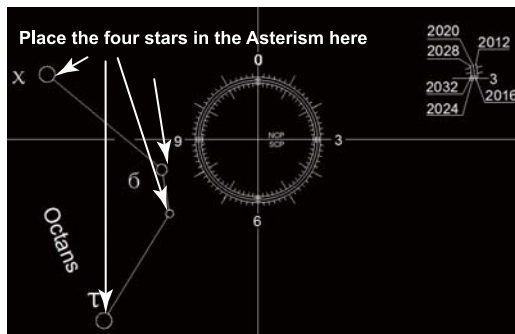

Fig 25
**For observing in the Southern Hemisphere:** locate in the polar scope the 4 dim stars (Around Magnitude 5 to 6) which form the pattern “Octans” (see drawing in the polar scope as Fig 25). Align the orientation of the “Octans” drawing to the 4 stars. Then move the 4 stars to the 4 small circles of the “Octans” drawing by using the horizontal adjustment knob to fine-tune the **Equatorial Wedge** or by moving the tilt-head of your tripod.